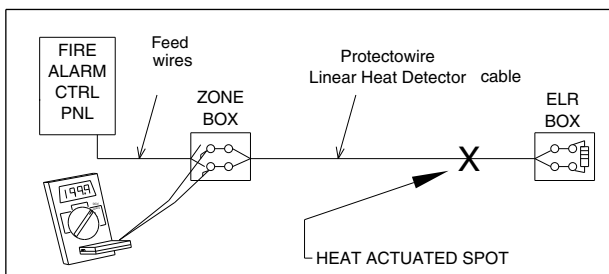
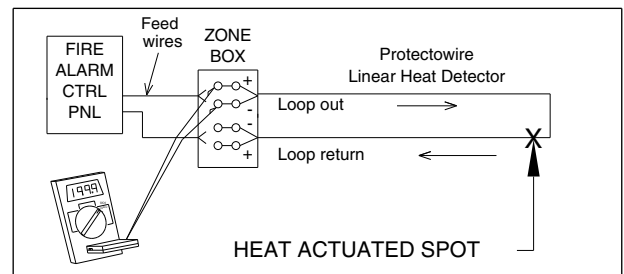

FIG. 3 CLASS B DET. CKT. W/METER CONNECTED
FIG. 4 CLASS A DET. CKT. W/METER CONNECTED.
- 1.03 A Protectowire Alarm Point Locator Meter identifies the location of the heat actuated (shorted) spot on the Protectowire linear heat detector. (See Figures 3 & 4)
If detection (initiating) circuit is a two wire Class B (NFPA Style A) start at the ZONE BOX which is the beginning of the Protectowire run. Disconnect at least one side (wire) of the detection circuit (See figure 3).
If detection circuit is a four wire Class A (NFPA Style D) start at ZONE BOX (see figure 4) mark and disconnect all for (4) wires, the two going out to the detection loop and the two returning. Connect the meter test leads across two wires going out. Meter will display location of the overheated point. Now connect the test leads across two returning wires. Meter will display a second reading. Add the two readings and you will get the total length of the Protectowire. Either way, from the start of the run to the actuated point or from the return of the wire run to the actuated point the location is at the same point on the Protectowire.
The actual length of Protectowire cable in a detection zone can be determined basically the same way as finding the alarm point on the cable, as described in Para. 3.02. This is accomplished by placing a jumper across the end of the Protectowire run, this would be in the ELR BOX for the two wire Class B CKT (See Figure 3). For the Class A CKT place jumper across the two return loop wires in the ZONE BOX (See-Figure 4). Connect the meter at the start of the Protectowire cable run, meter will display the total length of cable in that zone.